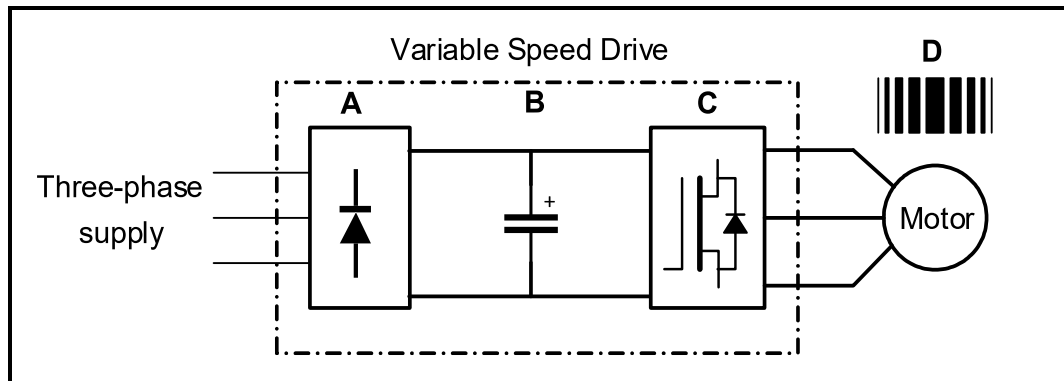

FIGURE 7.6: VARIABLE SPEED DRIVE
- 7.6 FIGURE 7.6 below shows the basic block diagram of a variable speed drive. Answer the questions that follow.